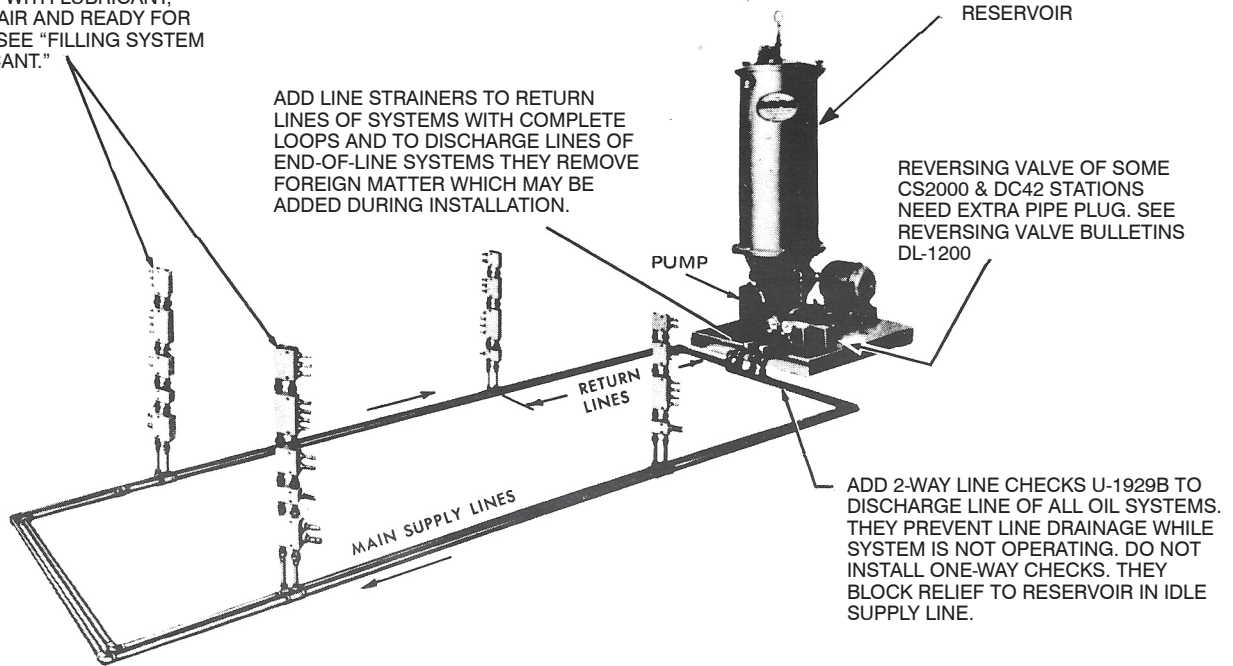

Fig. 1-A typical automatic loop system.
Keep lines short. Place close to machine for protection and cover with a protective shield in hazardous locations. Clamp rigidly. Connect each supply line to the same port on each measuring valve (see Figs. 1 and 2) so that indicator stems will move in the same direction, making erratic performance more obvious. Do not connect discharge lines to bearings until later (see page DC1-3 under "Bearings").
**Line Strainers and Line Checks**-Install as shown in Fig. 1.
Fill and purge branch lines leading off main supply lines as described above. Branch lines must be unplugged at their ends until a solid flow of clean, air-free lubricant appears. See Fig. 1.